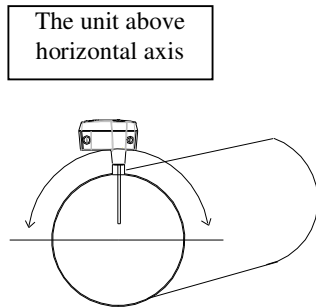

Figure 3a. Round cross-section duct
2. In round cross-section ducts, the unit can be installed in any position above the horizontal axis (between 9 o'clock and 3 o'clock). See figure 3a.